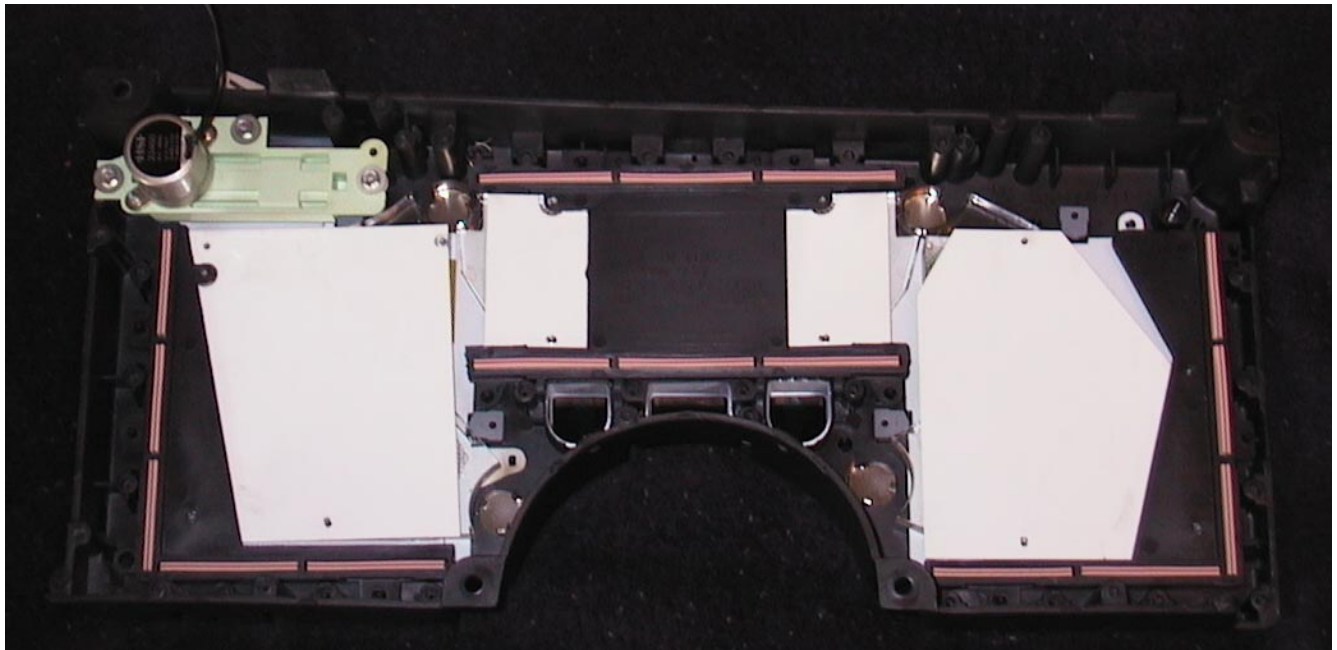

Figure 3 - Housing with both circuit boards removed. I had to remove the odometer in order to reassemble the Digital Cluster
7. The pink and grey rubber blocks between the glass LCD displays and the bottom circuit board are conductive, and are the "wires" connecting the glass to the circuit board. There's no glue on either end, they just kinda tend to stick to the glass and the copper traces on the circuit board. See Figure 3.
8. If it hasn't happened already, separate the LCD displays (3) from the bottom circuit board. If you have a segment out, go ahead and remove the pink/grey rubber blocks from both the glass and the circuit board. If not, try to let them remain stuck to the glass. Try to keep the panels, thick clear plastic light diffusers and thin plastic color sheet together. Don't worry about maintaining their alignment at this point - there are index pins to line everything back up when you reassemble it. See Figure 3.
2. If you have a segment missing, remove the pink/grey rubber blocks from the LCD panels and thoroughly clean the edges of the blocks and glass with windex. Be careful - the edges of cut glass are sharp. See Fig 3.